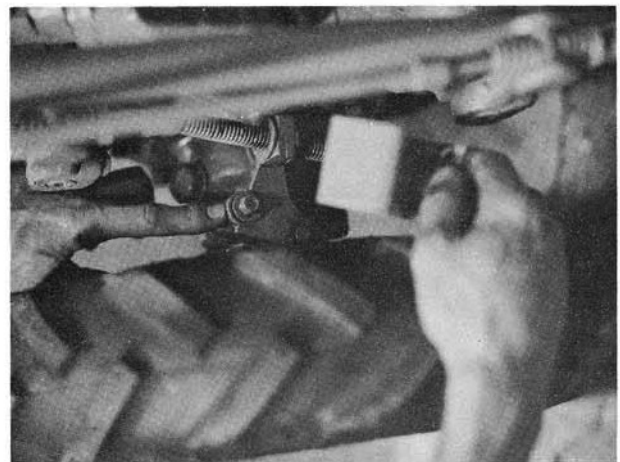

Figure 3
a. Remove Part Number 6731 Shifter Guard, and Part Number 6723 Shifter Arm. Check to determine if the Shifter Arm with the Pivot Bushings (Part Number 6724) is binding on the Pivot Pin--Part Number 6725. The Shifter Arm must operate freely on the Pivot Pin. The Shifter Guard is pictured in Figure 3.